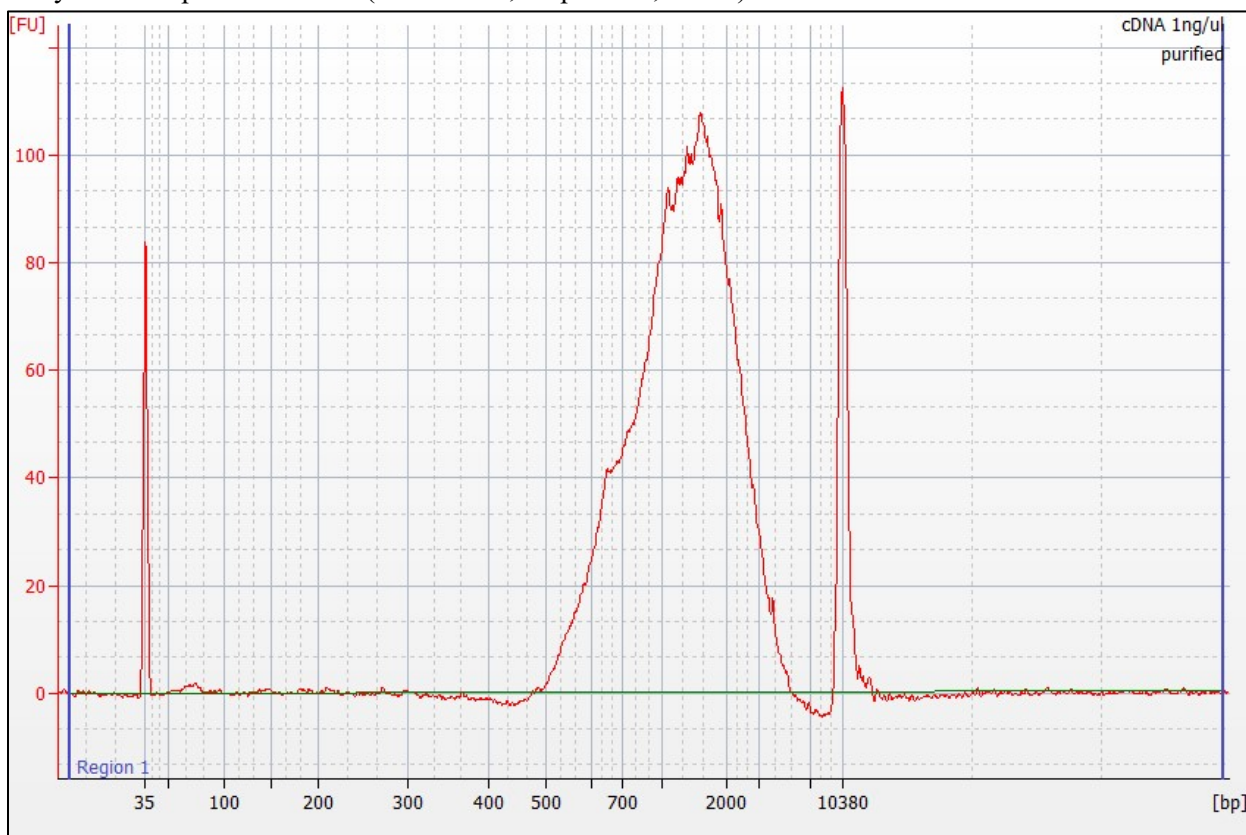

Figure 15. Typical Bioanalyzer trace for purified full-length cDNA that has been normalized to 1 ng/μl.
19. Use the Bioanalyzer results to determine cDNA quality (see Figure 15, below, for an example of a typical Bioanalyzer profile for a successfully purified cDNA product).